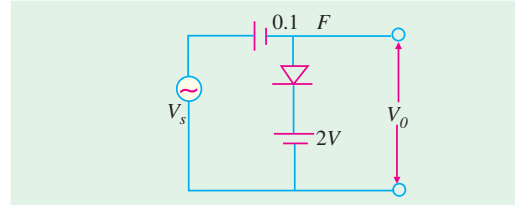

Fig. 52.58
20. For an input  $V_s = 5 \sin t$  (assuming ideal diode), the circuit shown in Fig. 52.58 will behave as a